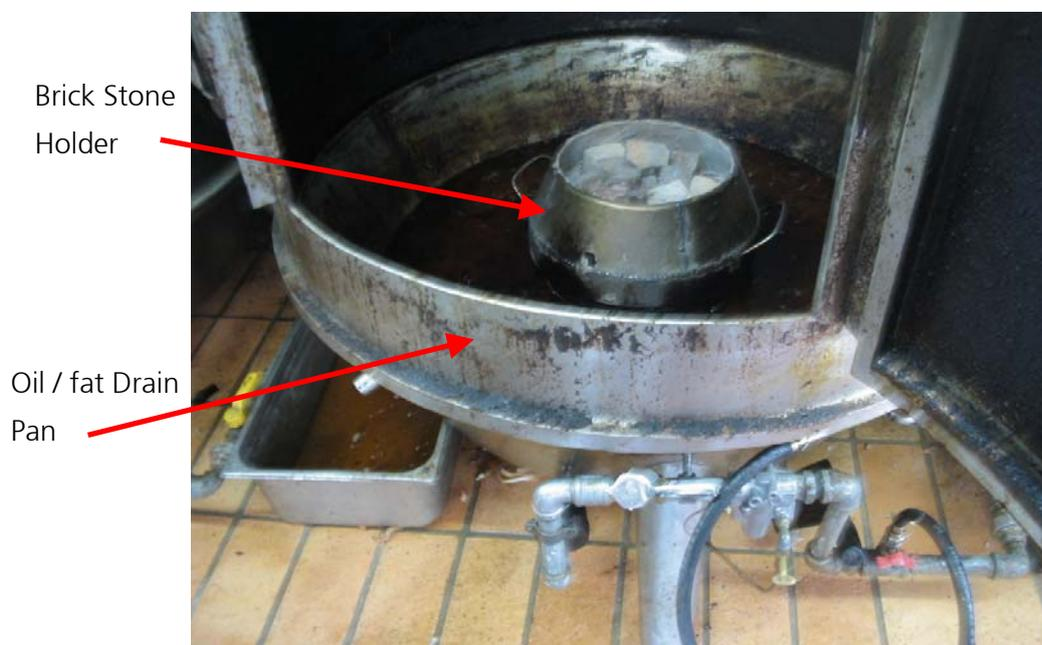

Figure 2 – A brick stone holder inside a gas-fired meat roaster
- a. As mentioned in 3.1.2, no brick stone or similar material shall be placed around the FFD, which may affect or delay the normal function of the FFD. A holder must be provided for every meat roaster to hold the brick stone or the like above the main burner (see Figure 2).